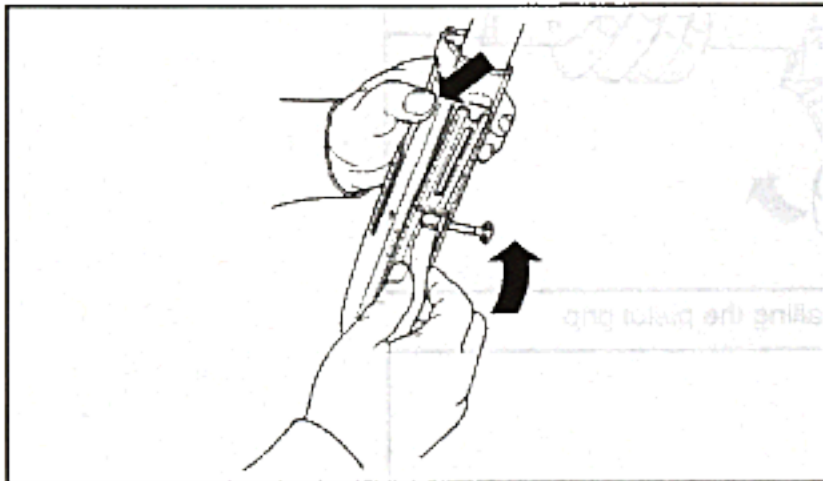

Figure 37. Installing the trigger group in the receiver
- A. **Depress bolt release button (Figure 37)** – Depress and hold in the bolt release button while installing the trigger group into the receiver to avoid damaging the shell stop and shell release levers.
- D. **While holding in the bolt release button**, insert the rear tang of the trigger group into the opening for it in the receiver. Rotate the front of the trigger group upwards into place in the receiver until the hole for the trigger group locking pin aligns (Figure 37).